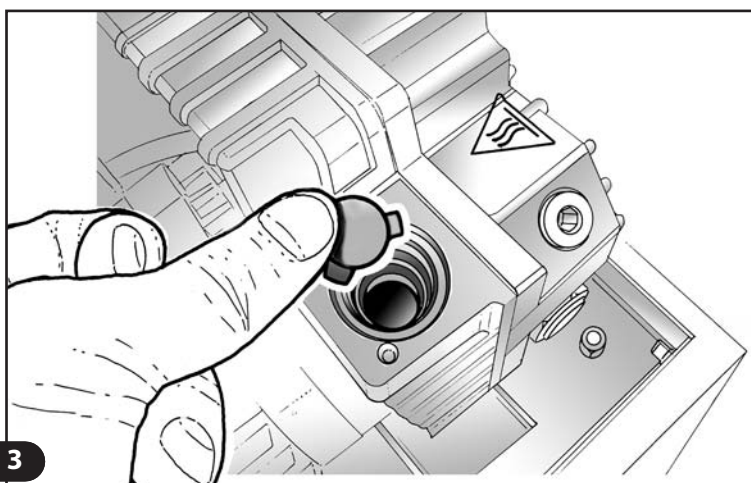

**Fig. 2**
- 4) Remove first the rubber shutter and then the steel one. Check the condition of the accessible intake section and clean it if necessary with a cloth soaked in alcohol (**Fig. 2**).